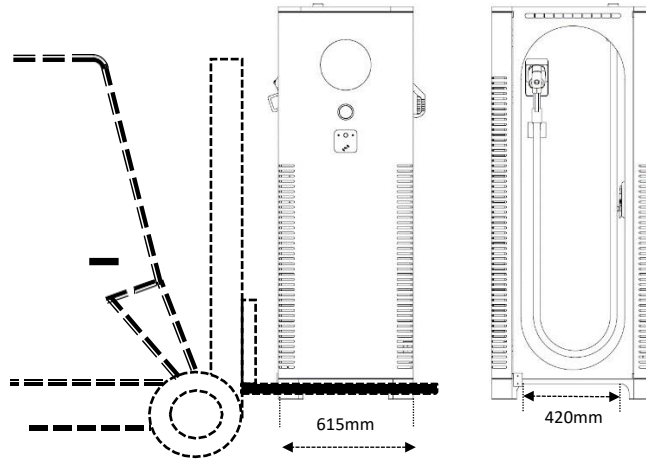

Figure 4.6.1
- Insert the forklift from the bottom facing the plug side (CCS or CHAdeMo) of charging station and move the charging station to the desired installation location. As shown in Figure 4.6.1 the width of fork is up to 420mm and the length of fork is min. 600mm. **Please move the charging station with the utmost caution!**